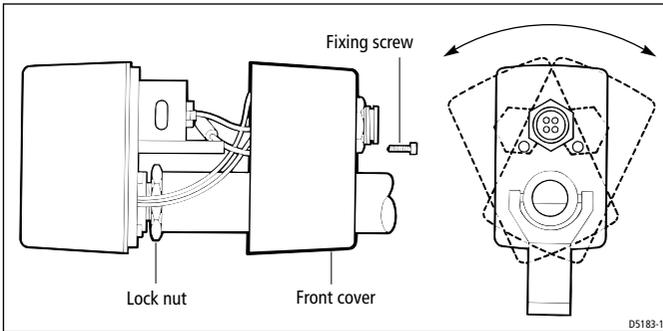

Figure 17: Rotating the main body of the I/O drive unit
**Note:** *If necessary, you can rotate the main body of the drive unit relative to the girdle tube (see Figure 17).*